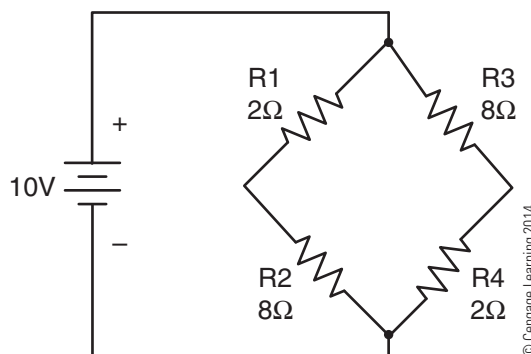

Figure 2-61
17. Find the following for the circuit shown in **Figure 2-61** (hint: redraw diagonal resistor circuits with all vertical lines if shape is confusing):